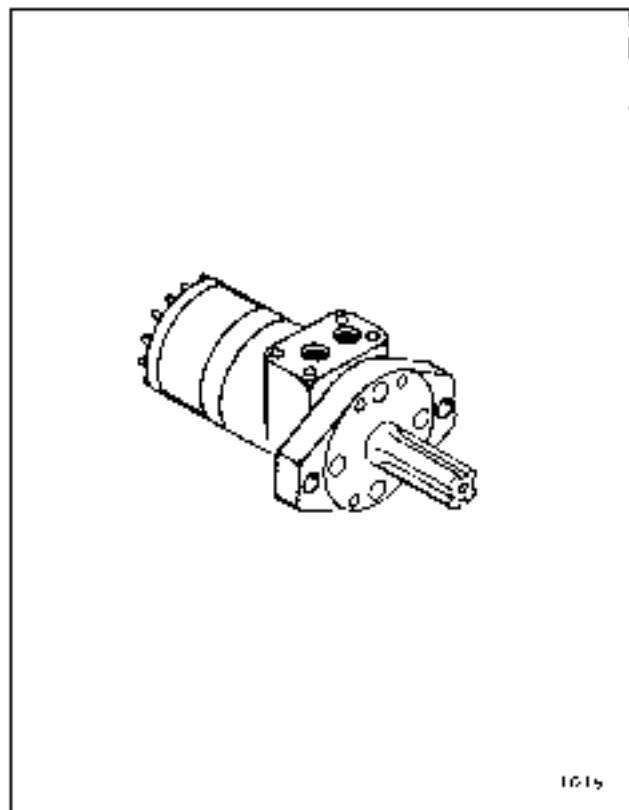

Figure 2-14. Swing Motor
2. **Swing Motor.** The hydraulic motor is a gear type and provides a low-speed, high-torque output to the swing gearbox. (See Figure 2-14.)